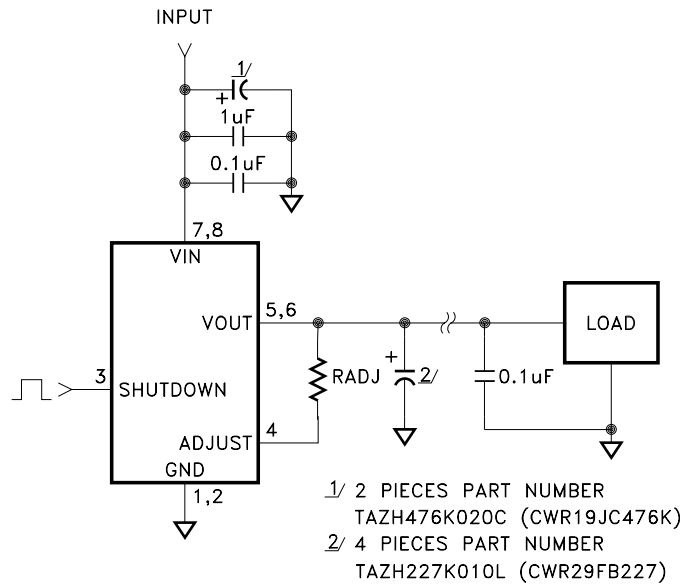

FIGURE 2
- ① Unless otherwise specified, VIN = 5.0V, V_{SHUTDOWN} = 0V and I_{OUT} = 50mA. See figure 2 for typical test circuit.
- ② Guaranteed by design but not tested. Typical parameters are representative of actual device performance but are for reference only.
- ③ Industrial grade devices shall be tested to subgroups 1 and 4 unless otherwise requested.
- ④ Military grade devices ("H" and "K" suffix) shall be 100% tested to subgroups 1,2,3 and 4.
- ⑤ Dropout limited by minimum value of VIN.
- ⑥ Subgroup 1, 4 TC = +25°C